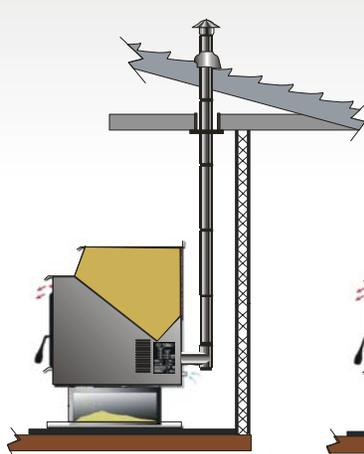

Figure 14
## VERTICAL INSTALLATIONS: (Figures 14, 15, 16, 17, & 18)
-  **VERTICAL, THROUGH THE CEILING**, through another room or space, or attic, then through the roof, terminating with a rain cap. Figure 14.